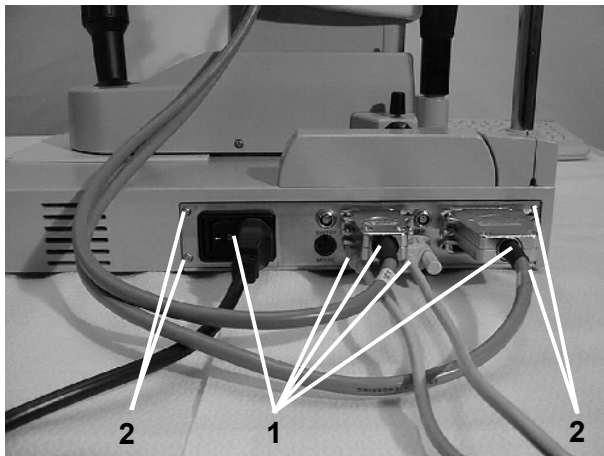

Fig. 7a
- Unplug all connectors ((1) Fig. 7a).
- Remove four screws ((2) Fig. 7a).